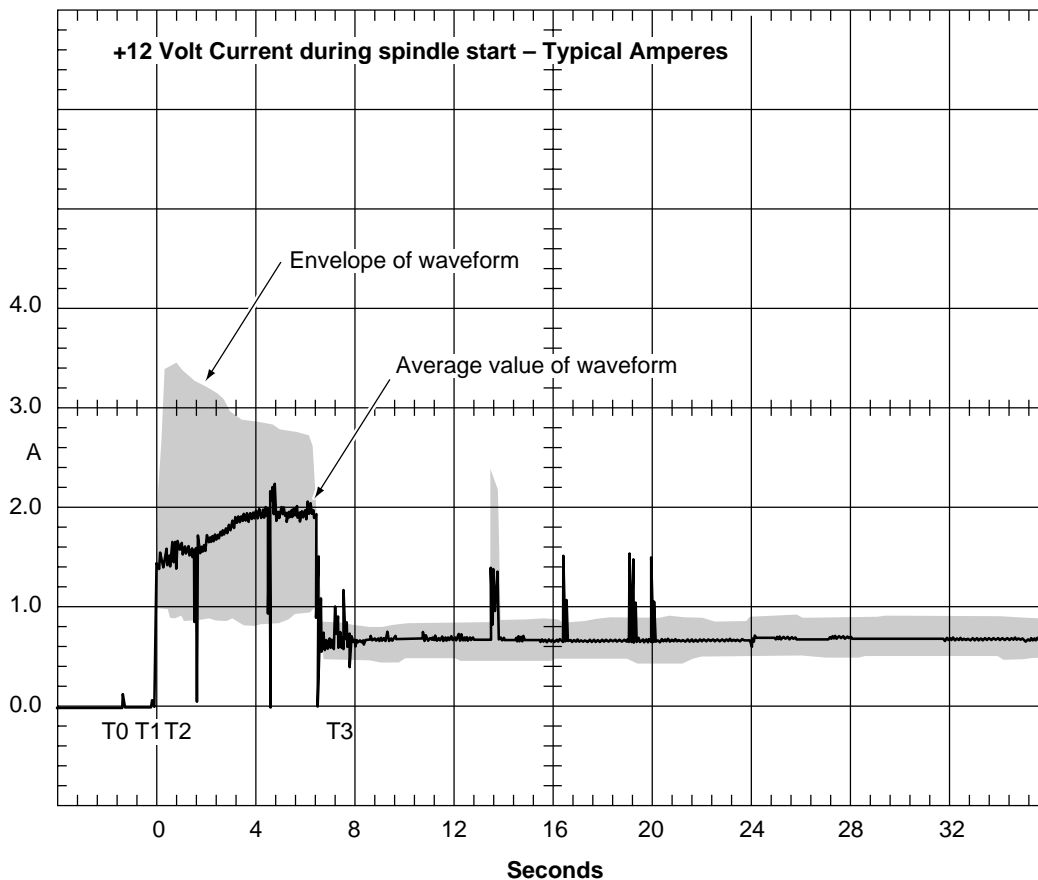

Figure 3. Typical ST336704FC drive +12V current profile
- [3] See +12V current profile in Figure 3.
Figure 3 identifies the drive +12V current profile. The current during the various times is as shown: